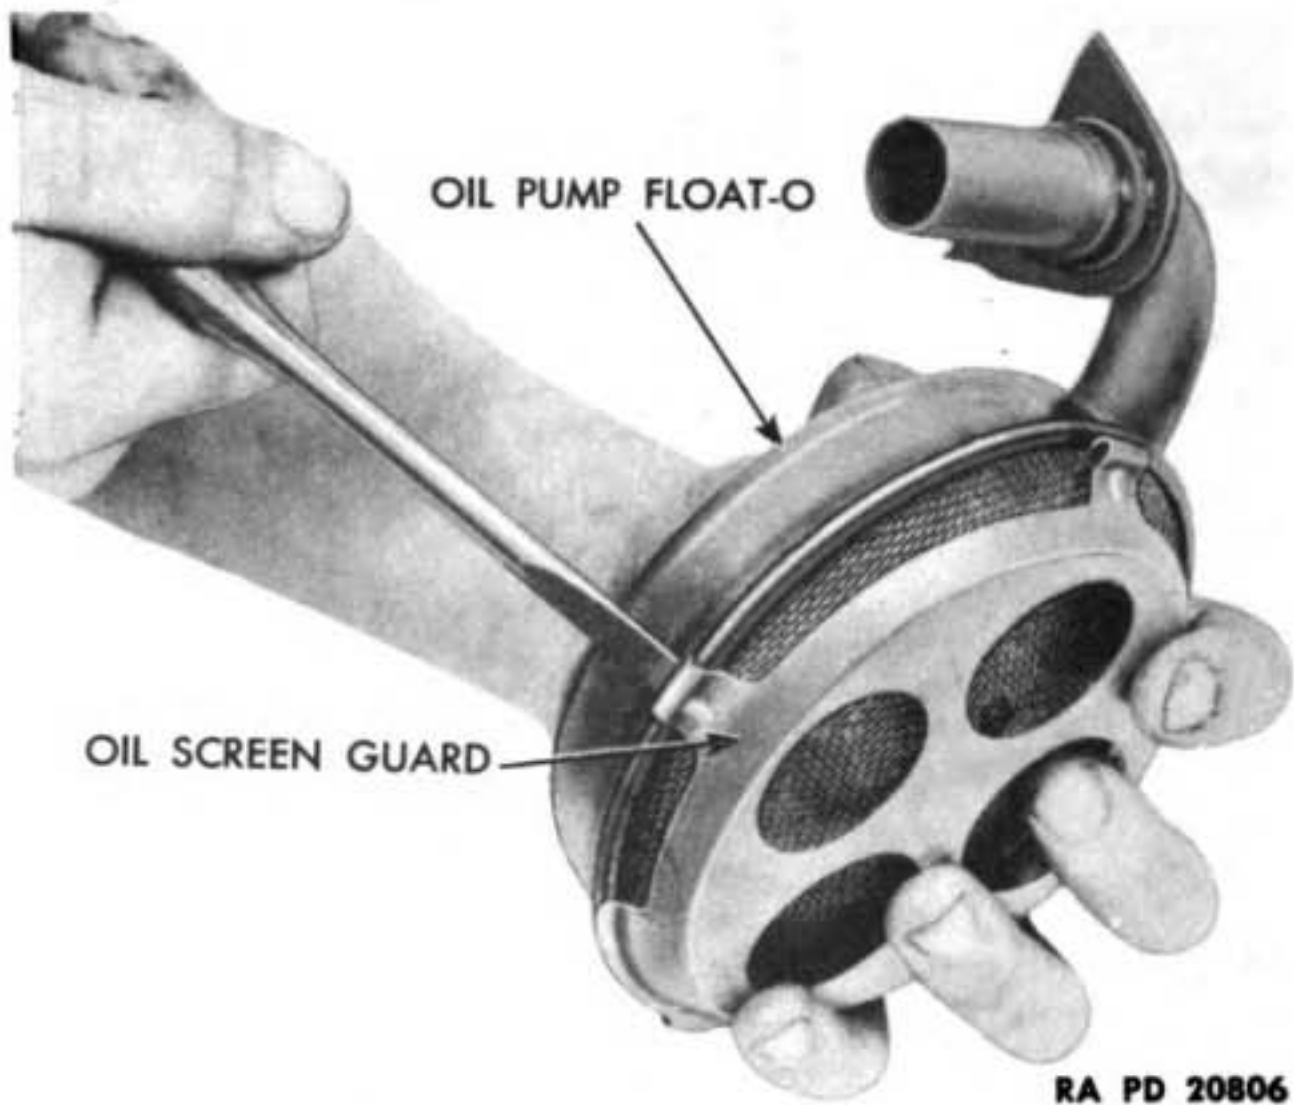
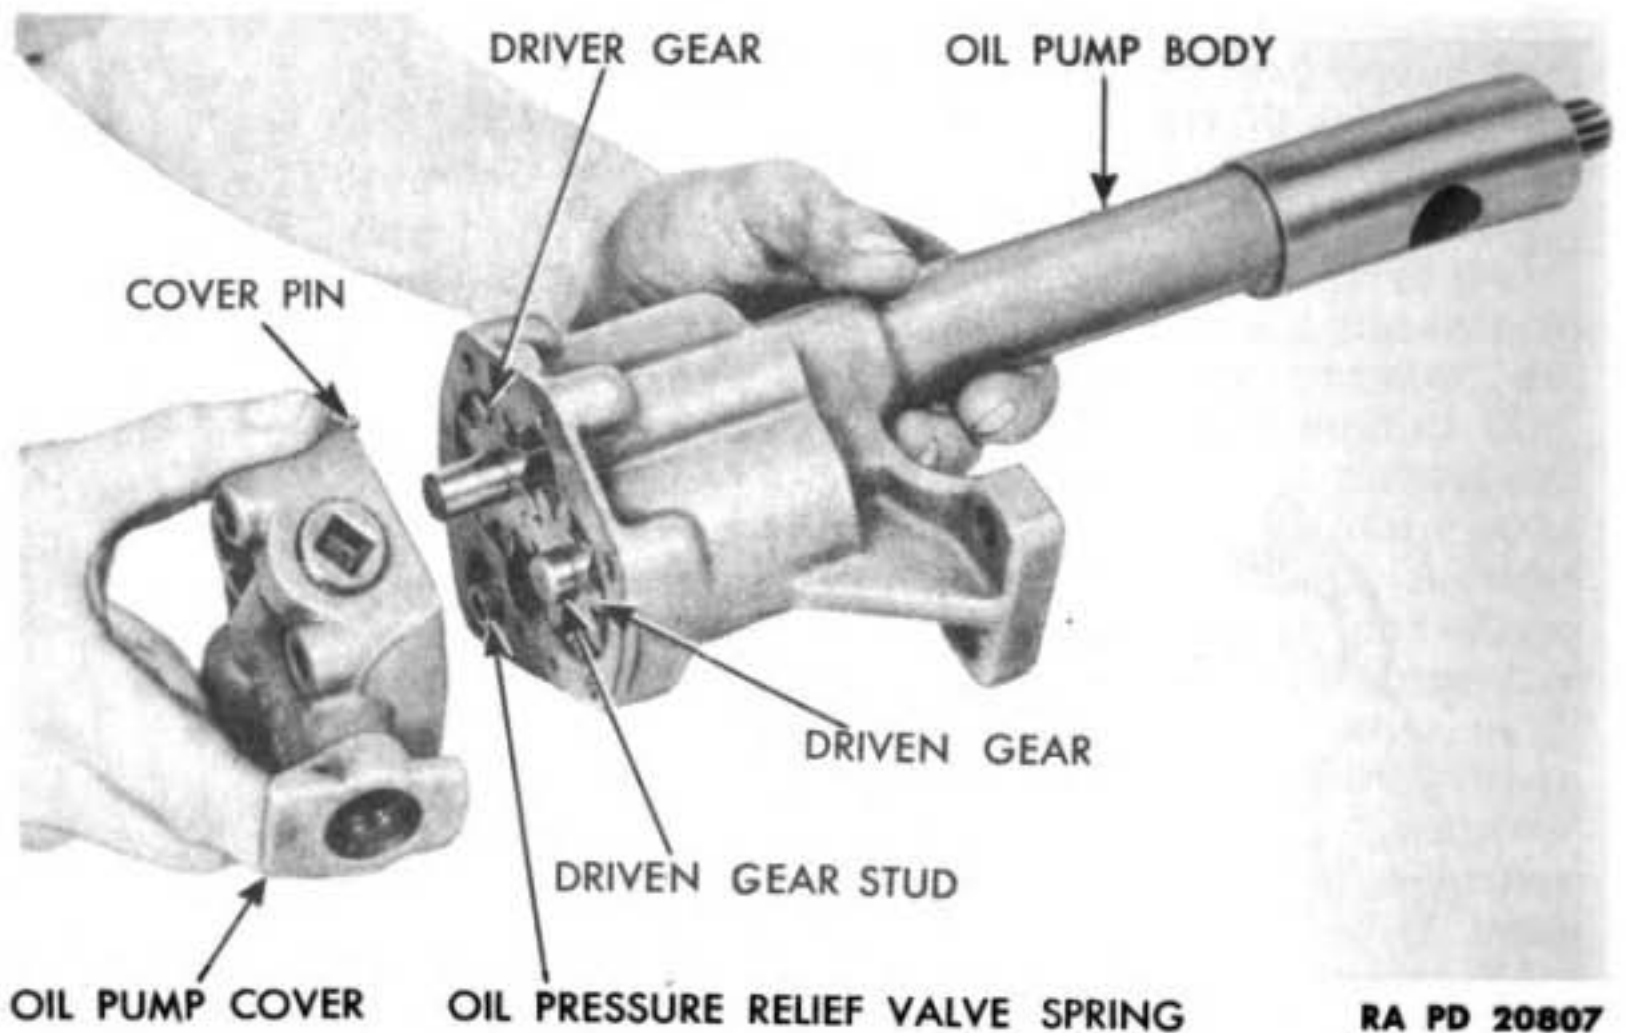

Figure 74 — Removing Oil Screen Guard
Figure 75 — Removing Oil Pump Cover
a. Disassemble. Remove cotter pin holding oil pump Float-O to oil pump cover (fig. 72). With screwdriver, pry guard from oil Float-O (fig. 74). Remove six cap screws and lock washers holding cover to body. Lift off cover (fig. 75). Pull driver shaft and driver gears out of pump body (fig. 73). With a puller, remove driver gears from shaft. Tap pump body on piece of wood to remove driven gears, and oil pressure relief valve and spring (fig. 73). With a suitable size drift, drive out driven gear stud (fig. 73).